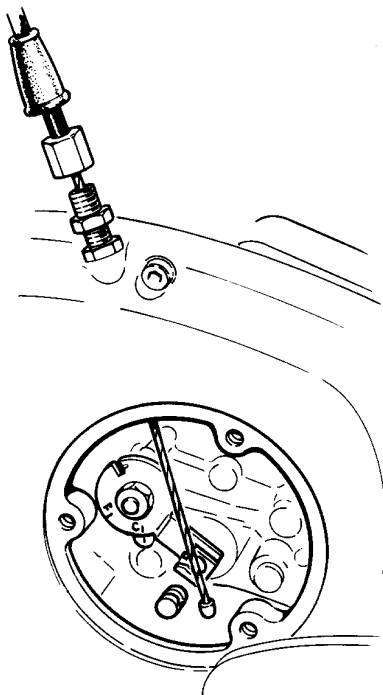

Fig. G6. The Oil Metering Unit Cable.
2. Unhook the cable from the oil metering unit operating lever (Fig. G6), being careful not to lose the nylon roller on the nipple. Remove this and keep in a safe place until required for assembly.
### Adjustment of oil metering unit cable after refitting (Fig. G6)